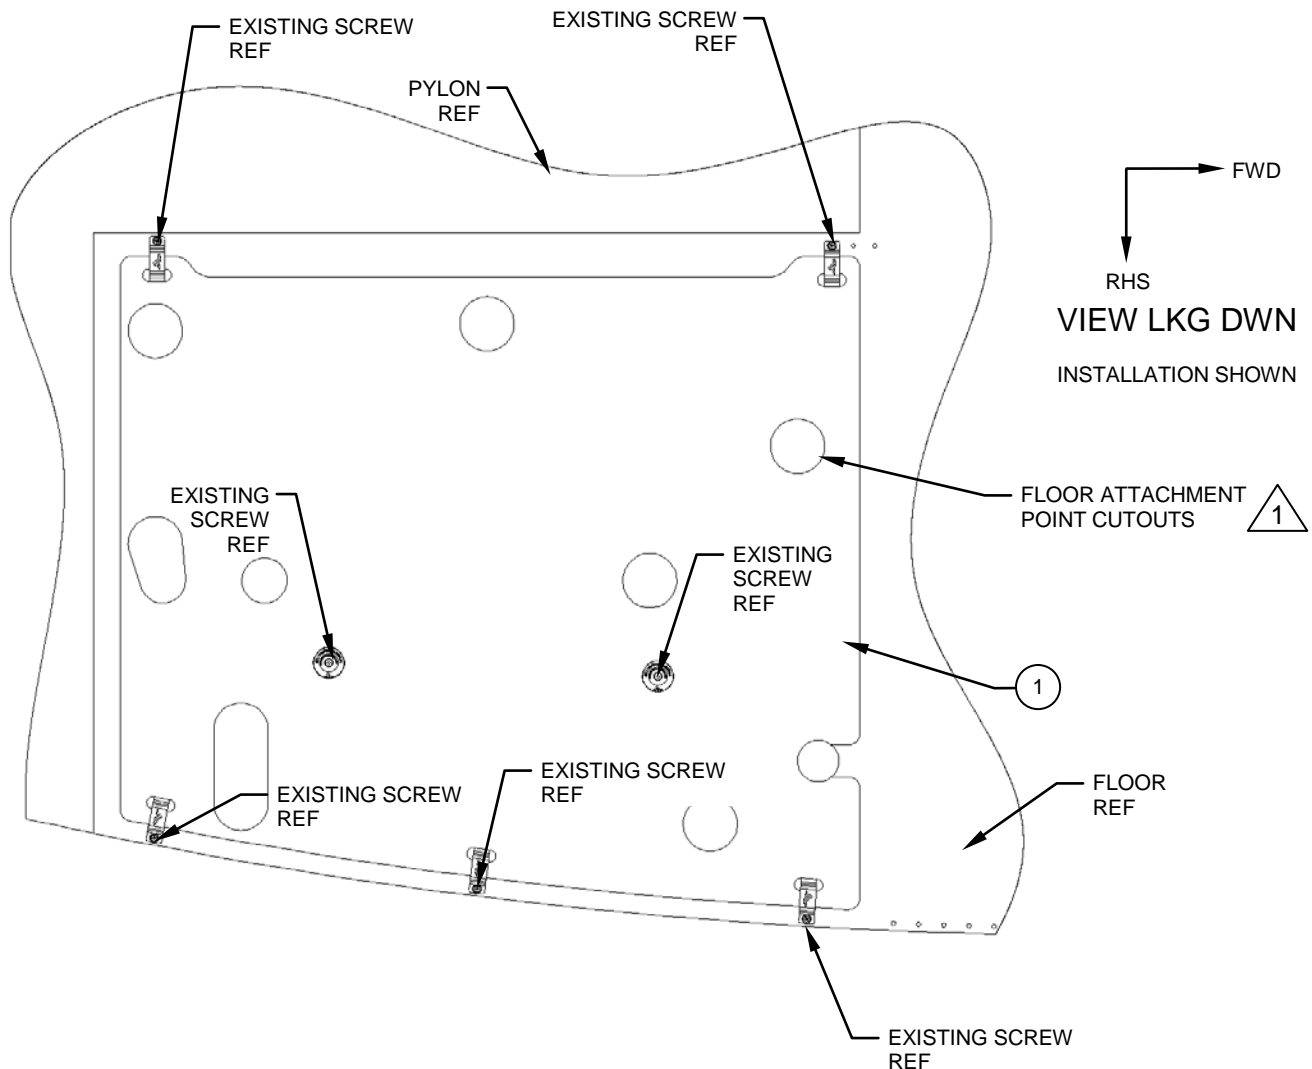

Figure 2
2. Install the Floor Board Assy, Item 1, as shown. Reference Figure 2.
3. Remove and discard the existing floor panel hardware, 7 places, from the locations shown. Reference Figure 2.